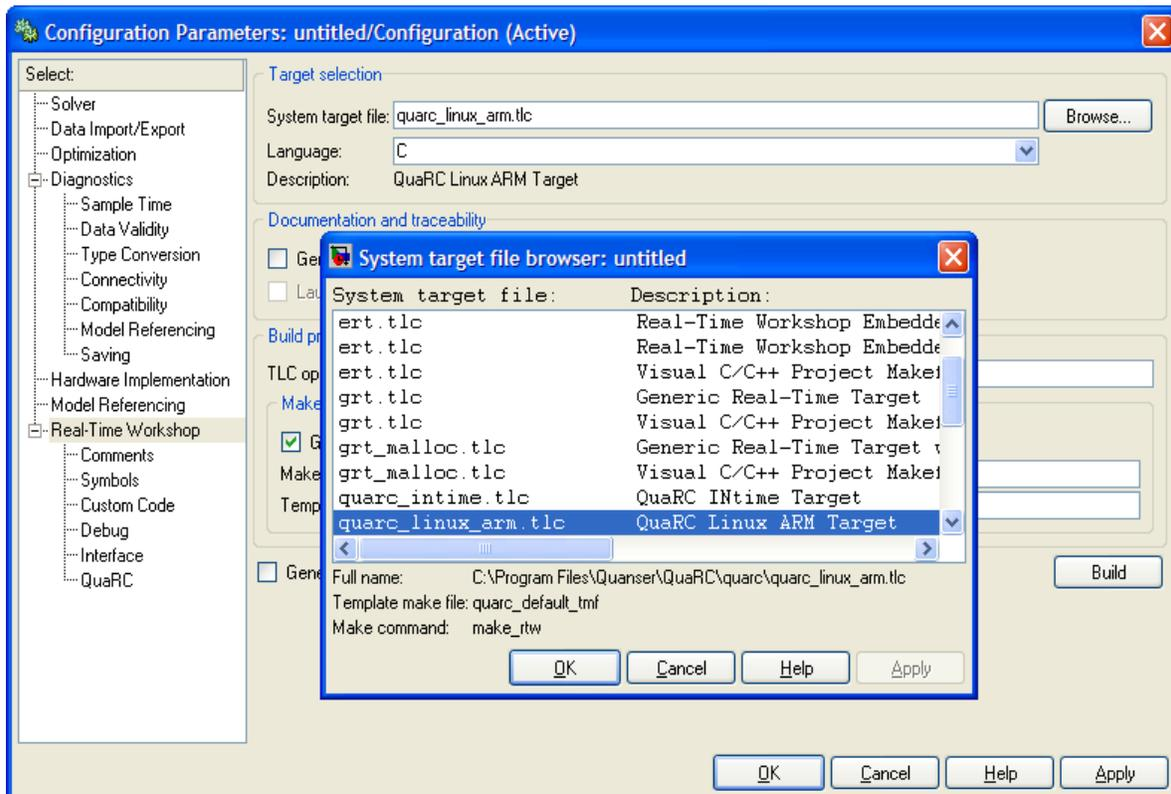

Figure 18 QuaRC Option Menu.
3. The System target file under Real-Time Workshop should be `quarc_linux_arm.tlc`. Browse through the system target list to locate the proper file if necessary (Figure 18).